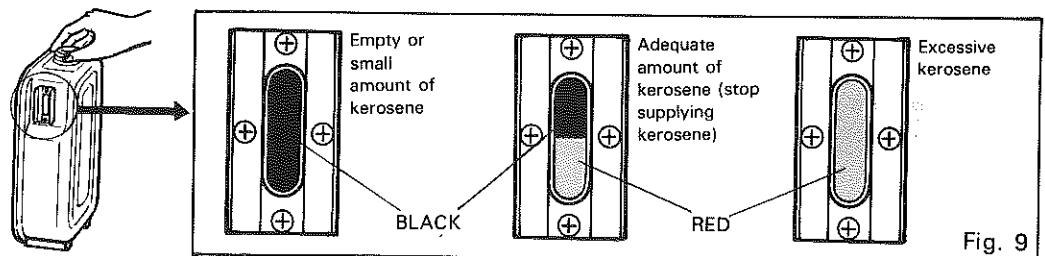

Fig. 9
- (e) When the fuel level (red portion) rises up to the center of fuel gauge, loosen the air-tight cap. (Fig. 9)
- ③ Fasten the tank cap to the cartridge tank securely.
- ④ Set the tank into the kerosene heater properly. (If the cartridge tank is set improperly, the cover on cartridge tank will not shut.)
- ⑤ Wipe up any spilled kerosene thoroughly.